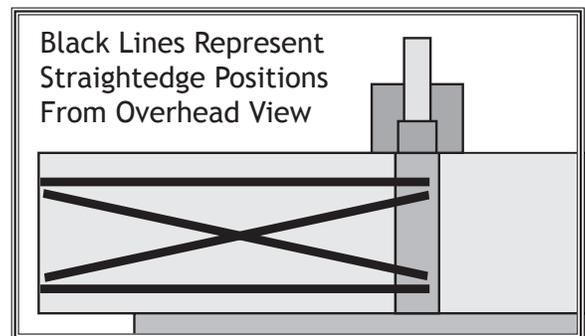

Figure 39. Straightedge positions for verifying if the outfeed table is parallel with cutterhead.
6. Place straightedge in positions shown in **Figure 39**. In each position, straightedge should touch cutterhead and sit flat on outfeed table.